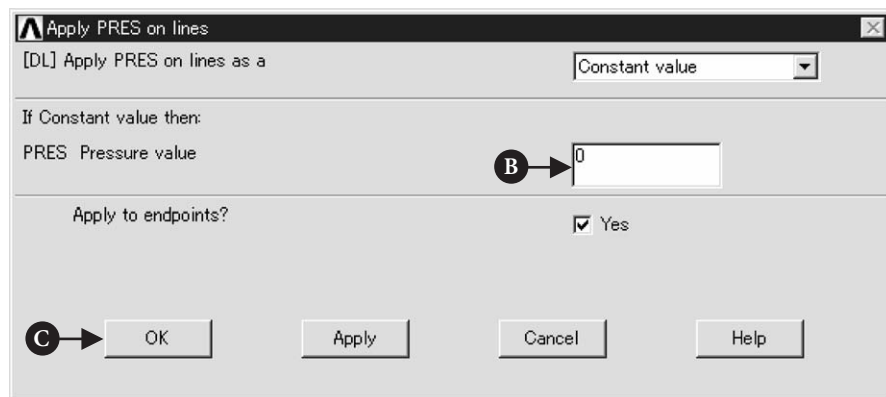

Figure 5.24 Window of Apply PRES on lines.
- (1) Pick **Line 9** on **ANSYS Graphics** window and click [A] **OK** button. Then the window **Apply PRES on lines** opens (Figure 5.24).